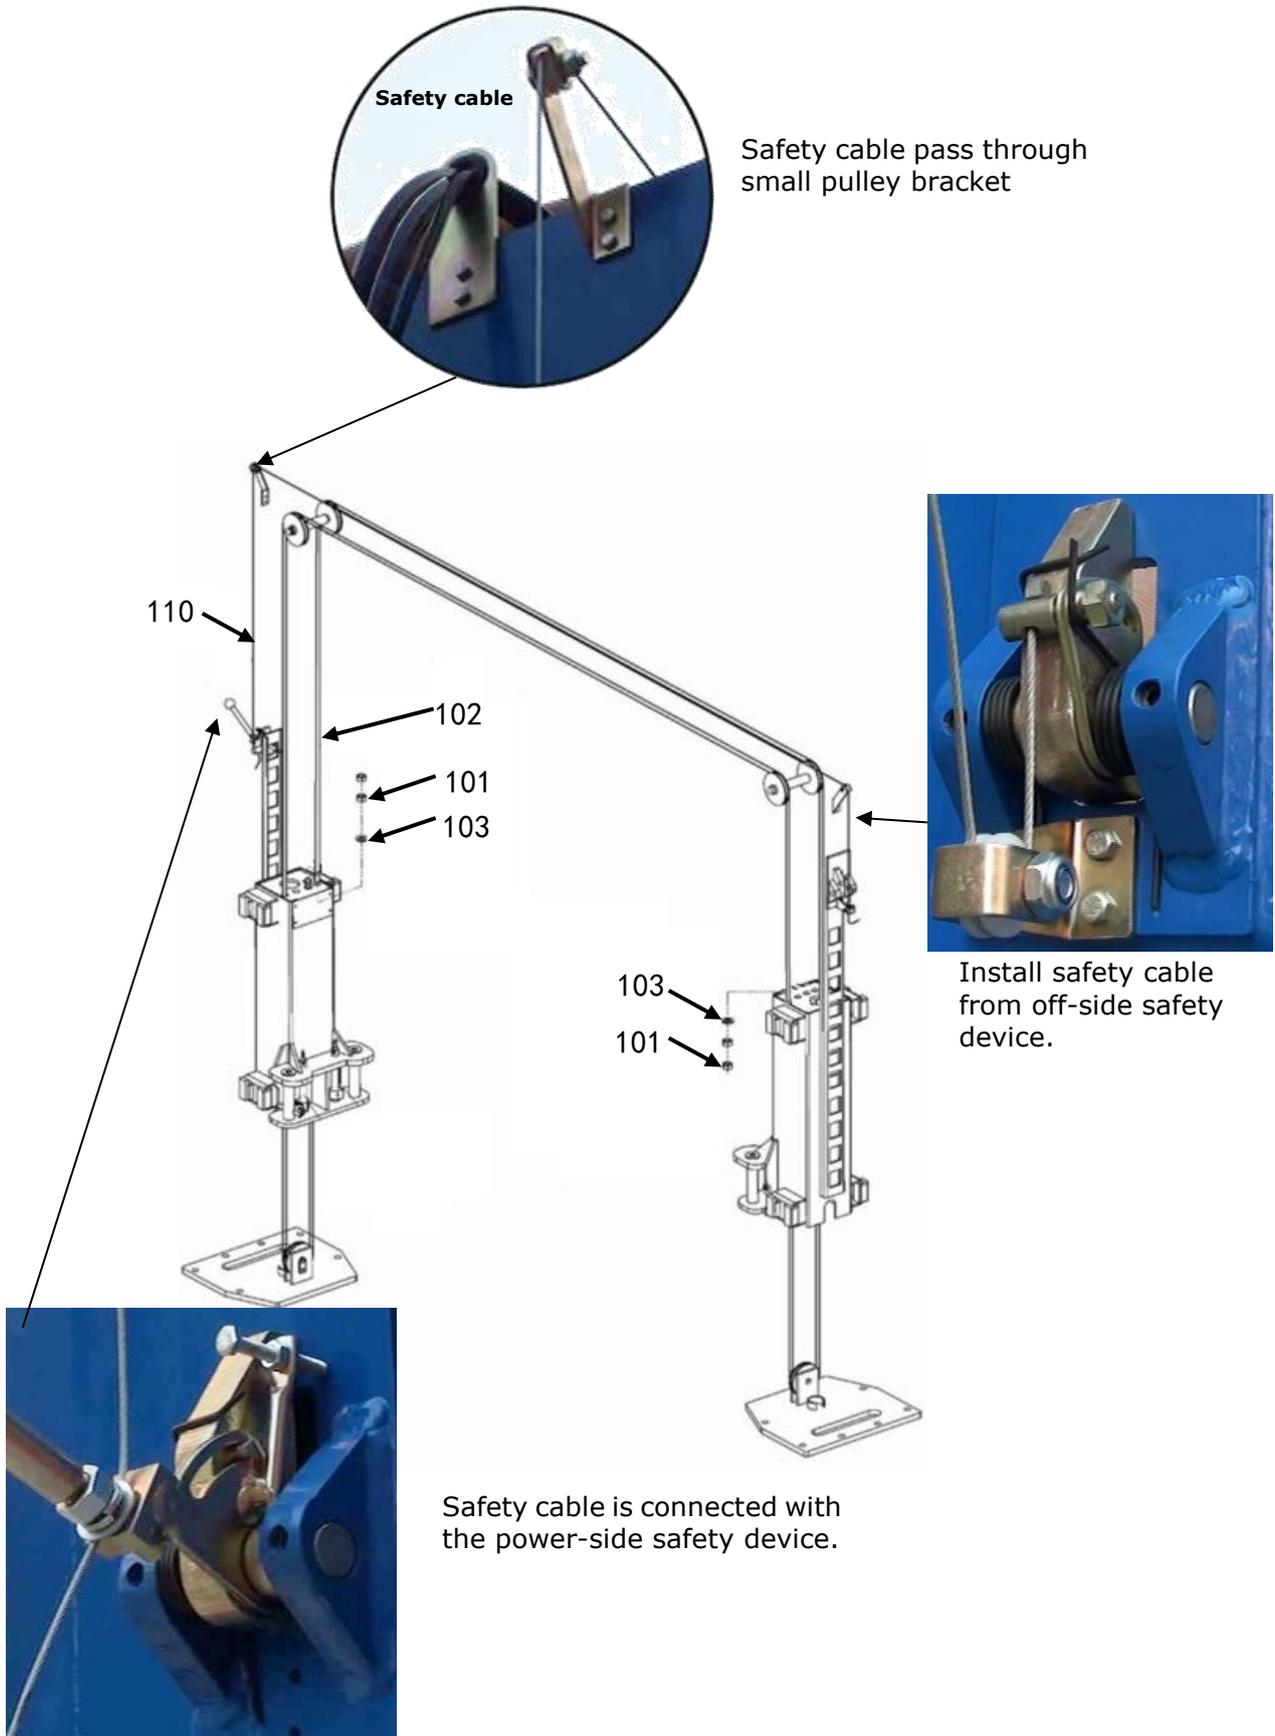

Fig. 33
N. Install safety cable. (See Fig. 33)